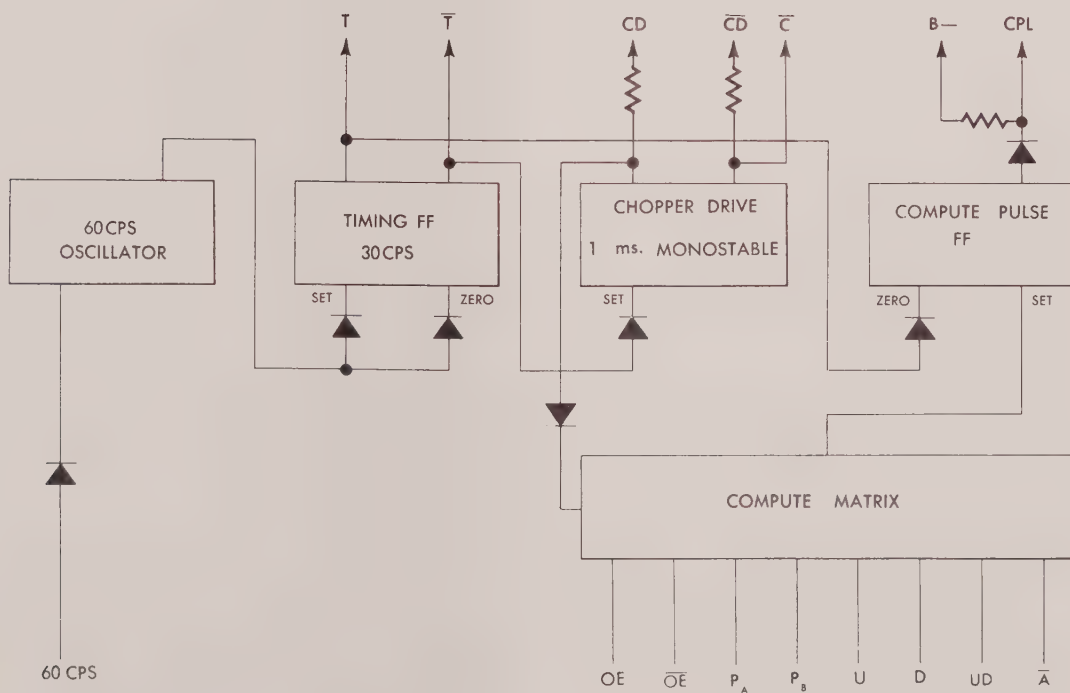
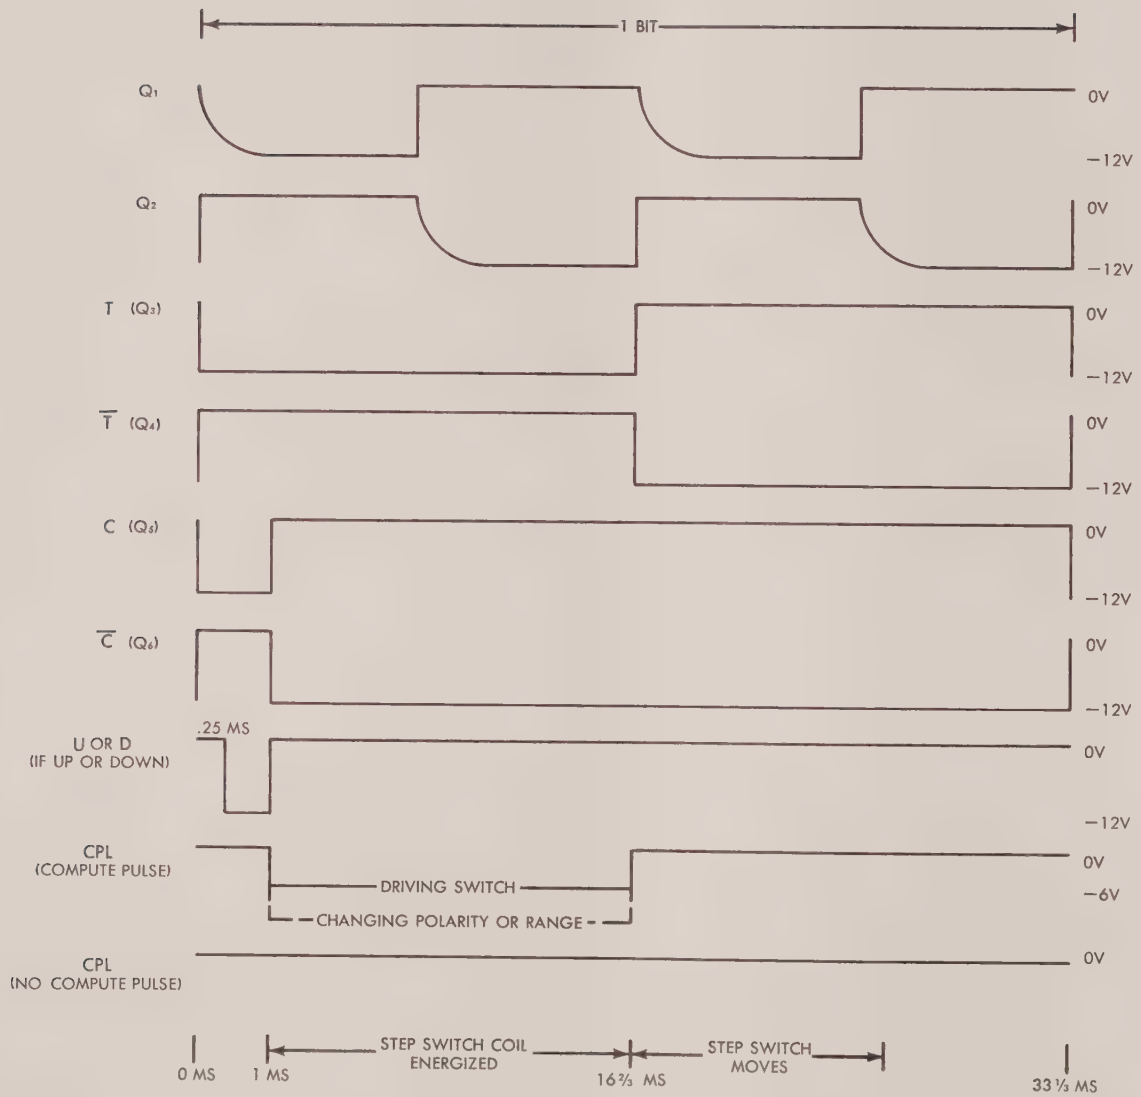
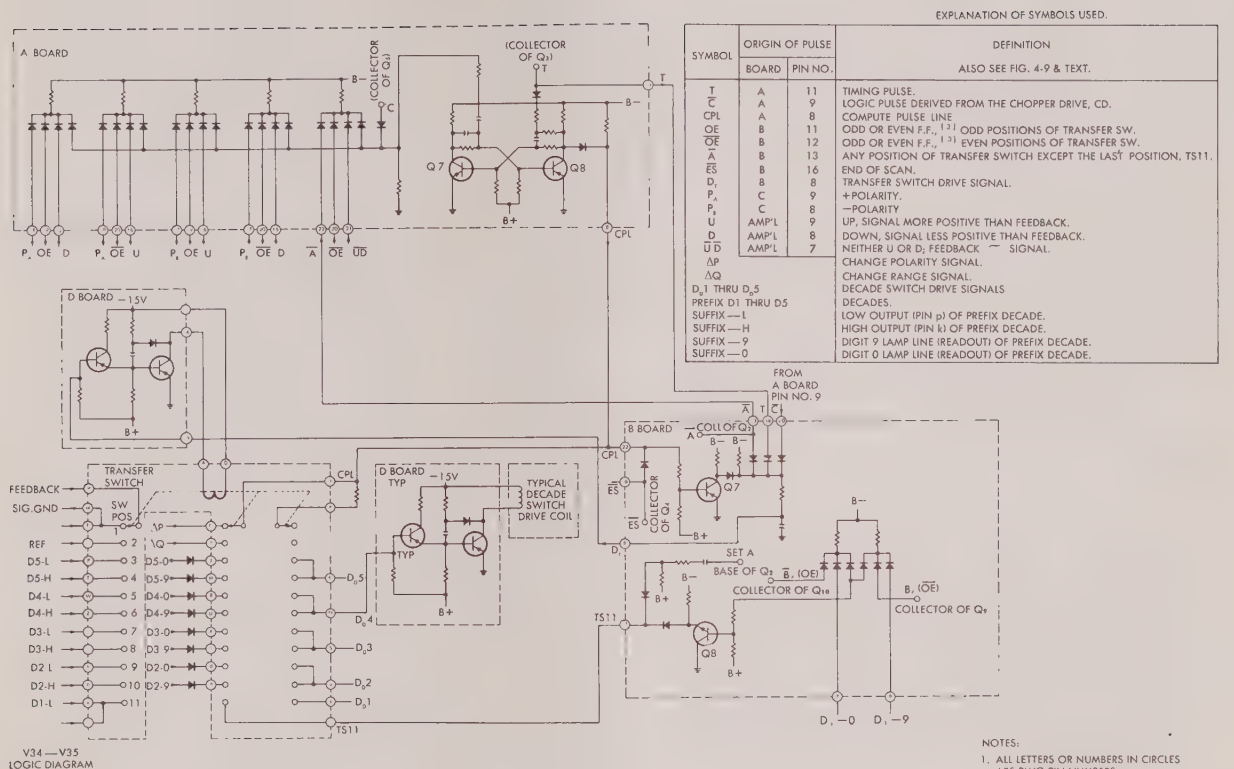

Figure 4-8. "A" Board Block Diagram.
Figure 4-9. Timing Chart.
Figure 5-1. Simplified Schematic Logic Circuits.
4-5 **A Board** Located on the A Board are the timing generator and the compute pulse generator. Figure 4-8 is a block diagram of the plug-in assembly and Figure 4-9 illustrates the timing of the pulses generated. The 60 cps oscillator is a free-running multivibrator synchronized to the power line frequency. (This multivibrator will also synchronize with 50 cps power.) The timing FF divides the frequency by two, producing 30 cps square waves, the bit rate of the DVM. The timing FF sets the chopper drive FF at the beginning of each bit and zeroes the compute pulse (CP) FF at the middle of each bit. The chopper drive FF is a one-millisecond monostable FF. CD and $\overline{CD}$ drive the center-tapped chopper coil, thus
A survey of the plug-in symptom chart in Section 5-1 will reveal that many plug-in units can cause scan failure. Failure to scan will always show up in the logic checkout. Figure 5-1 is a simplified schematic of the Compute Pulse Line (CPL) and its associated circuitry. This diagram can be of considerable assistance in tracing the faulty plug-in assembly.
Connect an oscilloscope from CPL (Pin 22 on the B Board) to power ground (Pin 3 on the B Board). If a pulse similar to that pictured in Figure 4-9 exists, then a Compute Pulse (CP) exists. Using Figure 5-1 as a guide, trace CPL through the transfer switch to ΔP , ΔQ , or one of the decade drives. If CP exists on ΔP or ΔQ , the C Board is at fault. If CP exists on one of the decade drives, the trouble is either the appropriate D Board or Decade switch. A CP on one of the decade drives will fall to about -0.3 volts, instead of -6 volts as on CPL. If a CP does not exist ($\overline{CP}$), the transfer switch should be stepping. Connect the oscilloscope to D_T (pin on the B Board). This point should show a pulse from approximately $+6$ volts to -0.3 volts. If the pulse exists, the fault is either the appropriate D Board or the transfer switch. If the pulse does not exist, the fault is most likely the B Board.